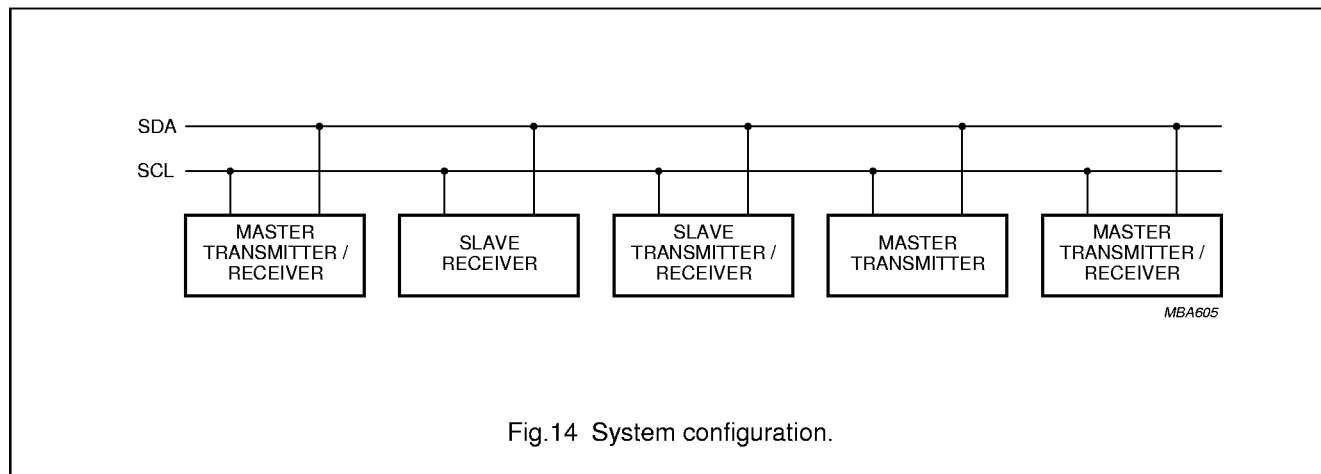

Fig. 14 System configuration.
8.3 System configuration (see Fig. 14)